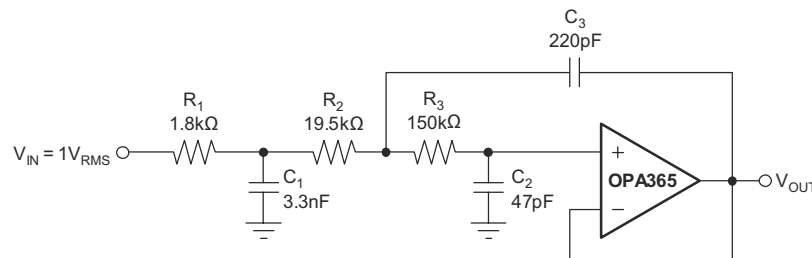

FIG 8-4. Configured as a 3-Pole, 20 kHz, Sallen-Key Filter
3. using a noninverting filter topology such as the Sallen-Key (shown in FIG 8-4).